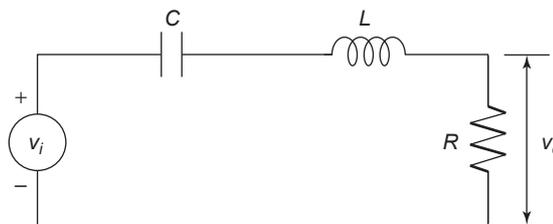

Figure P28
28. The  $RLC$  circuit shown in Figure P28 can be used as a *narrowband filter*. If the input voltage  $v_i(t)$  consists of a sum of sinusoidally varying voltages with different frequencies, the narrowband filter will allow to pass only those voltages whose frequencies lie within a narrow range. The magnification ratio  $M$  of a circuit is the ratio of the amplitude of the output voltage  $v_o(t)$  to the amplitude of the input voltage  $v_i(t)$ . It is a function of the radian frequency  $\omega$  of the input voltage. Formulas for  $M$  are derived in elementary electrical circuits courses. For this particular circuit,  $M$  is given by
47. The *RLC* circuit described in Problem 28 and shown in Figure P28 has the following differential equation model: